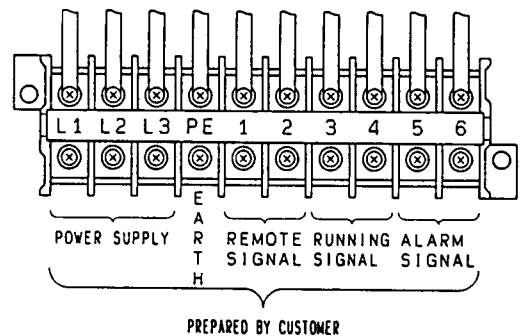

Figure 2-1 Terminal Block
- Remove front panel. Then, connect power cord as well as grounding wire to terminal block as shown in figure 2-1.